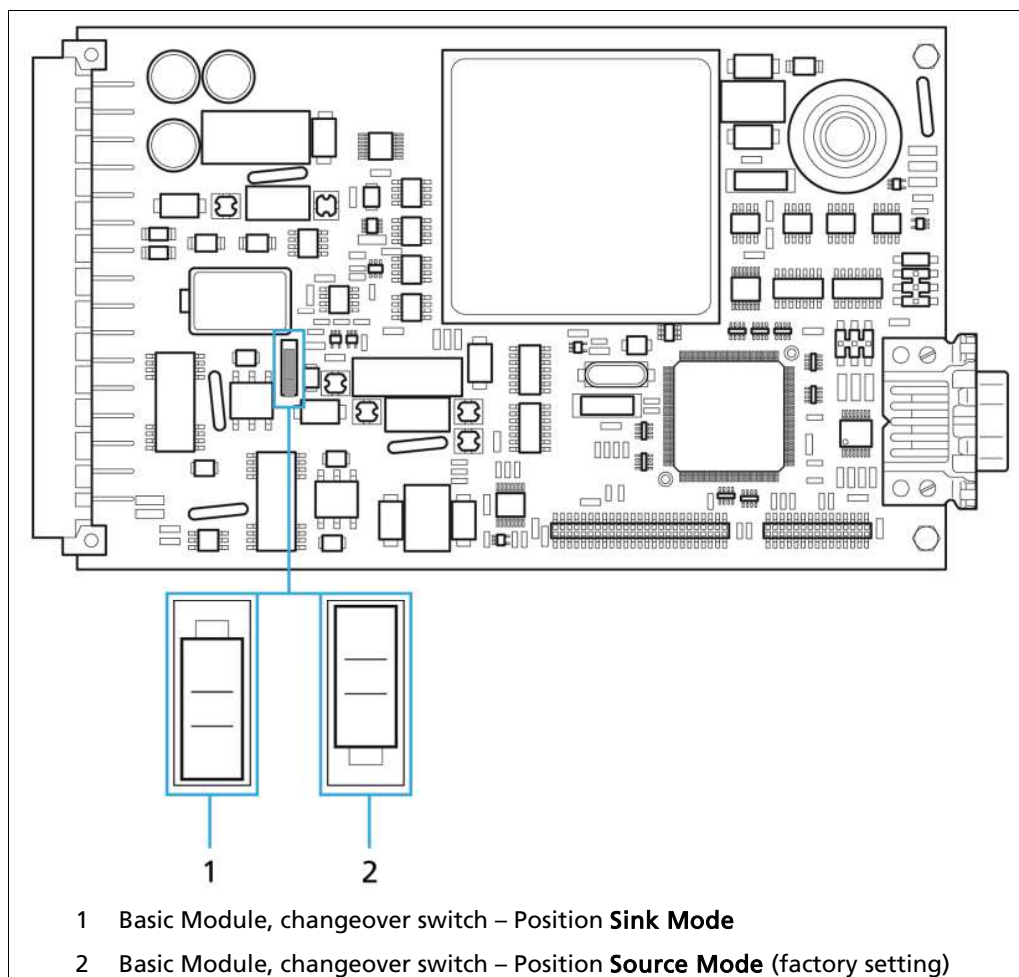

Fig. 12 Switching on the Basic Module Current Output at the Changeover Switch
- Set the desired position at the changeover switch (Sink Mode (Fig. 12, Pos.1) or Position Source Mode (Fig. 12, Pos. 2)).